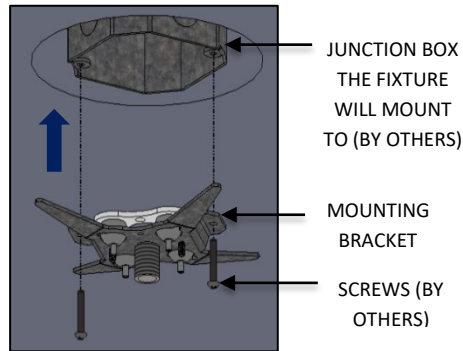

FIG. 15 – MOUNTING BRACKET ASSEMBLY INSTALLATION
7. Assemble the MOUNTING BRACKET ASSEMBLY to the JUNCTION BOX the fixture will mount to (by others) with screws (by others) as shown in FIG. 15 below.